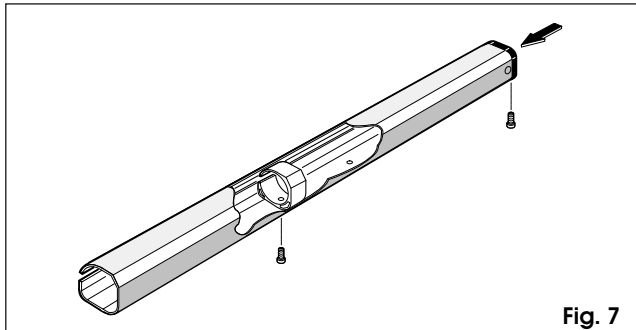
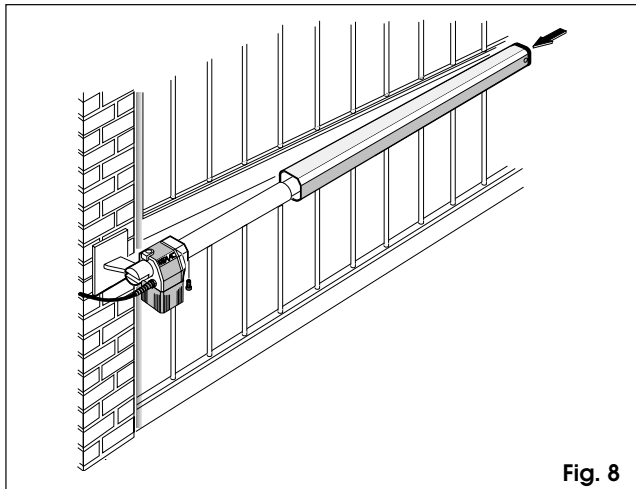

Fig. 7
Fig. 8
12) Fit the cover (fig. 7) on the operator as shown in fig. 8.
- N.B.:** Fix the guide support of the cover on the hole furthest from the cap (fig.7).